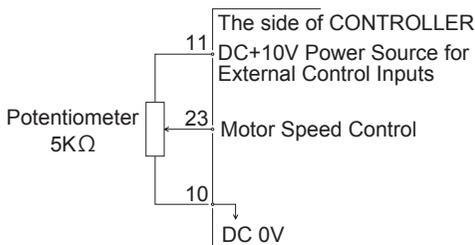
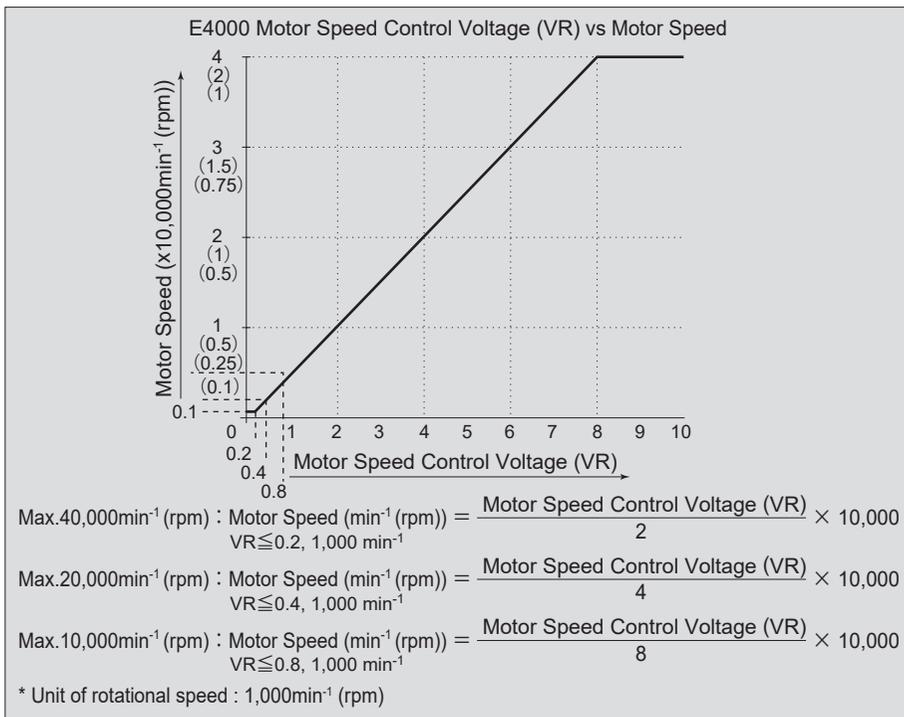

Fig. 30
Fig. 32
④ Motor Speed Control Signal
Rotation Speed can be selected by, applying analog voltage to the " Motor Speed Control Voltage (VR) ". Refer to Fig. 30, 31 for connections. Refer to Fig. 32 for the relationship between Motor Speed and " Motor Speed Control Voltage (VR) ".